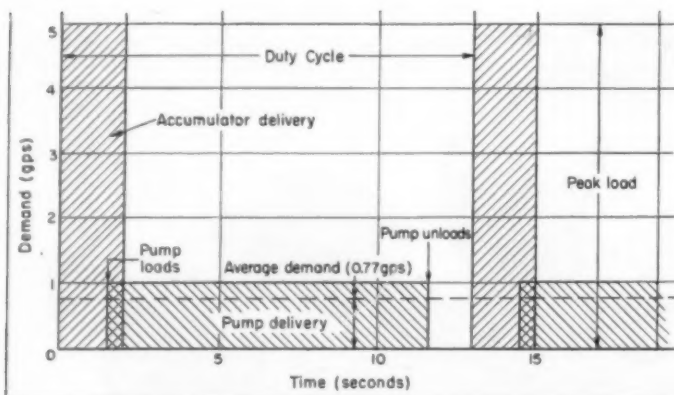

Fig. 1—Above—Supply-demand characteristics for typical hydraulic system utilizing accumulator to meet intermittent duty cycle requirements
**P**RIMARY function of a hydraulic accumulator is to supply instantaneous and peak demands for high-pressure liquid with relatively low-capacity pumping equipment. Pump energy is stored for intermittent duty cycles by using the time in between periodic load requirements to replenish the accumulator, *Fig. 1*. In addition, accumulators help control flow through the system and, in the case of the air-loaded type, provide a certain amount of cushioning of hydraulic shock.